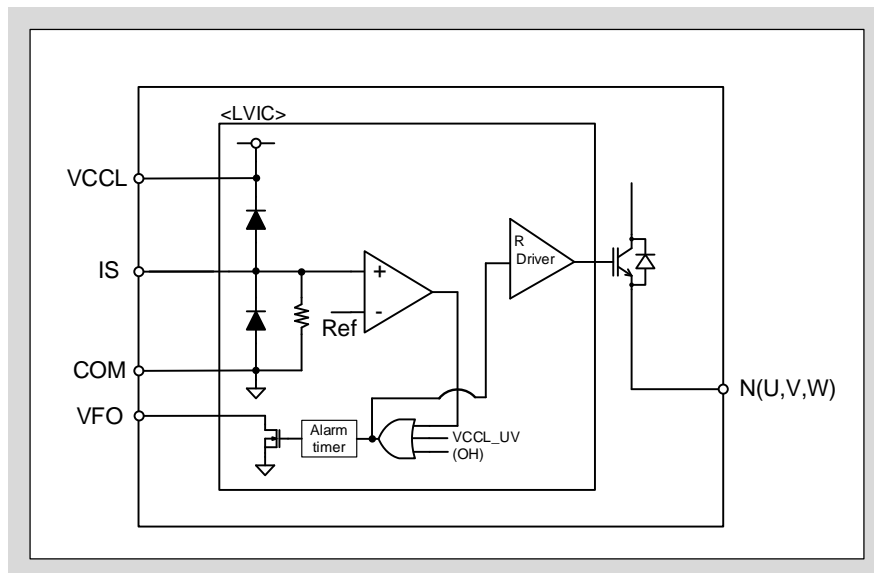
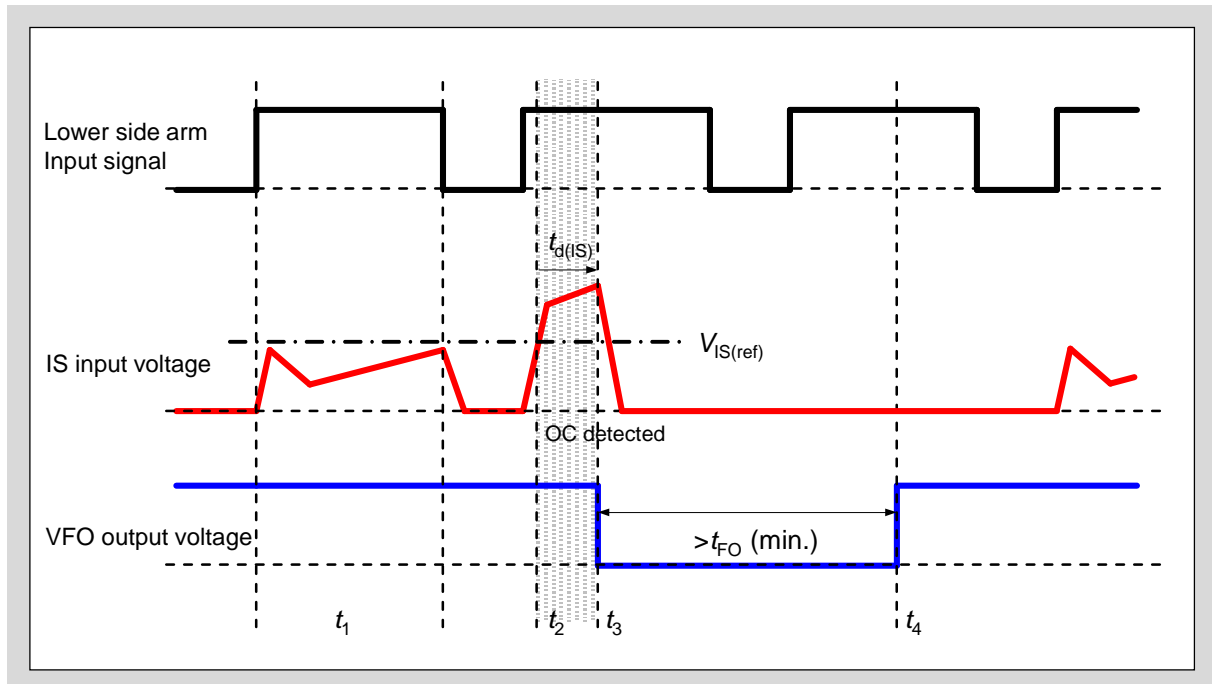

Fig.3-19 Over current sensing voltage input IS circuit
Fig.3-20 Operation sequence of Over Current protection
- Over current (OC) protection is a function of detecting the IS voltage determined with the external shunt resistor, connected to N(U, V, W) and COM.
- Fig.3-19 shows the over current sensing voltage input IS circuit block, and Fig.3-20 shows the OC operation sequence.
- Fig.3-19 shows that the diodes in the product are electrically connected to the VCCL-IS and IS-COM terminals. Do not use these diodes for voltage clamp purpose otherwise the product might be damaged.